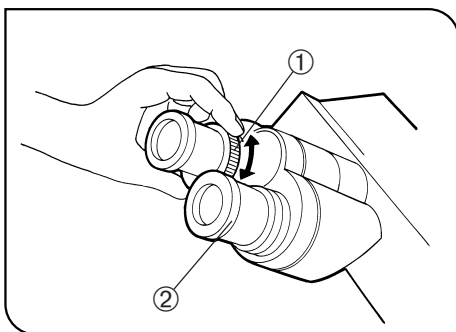

Fig. 16
### 2 Adjusting the Diopter (Figs. 16 to 18)
2. Looking through the left eyepiece with your left eye, turn only the diopter adjustment ring ① to focus on the specimen. (Fig. 16)
1. Looking through the right eyepiece with your right eye, turn the top of eyepiece ② until you see two distinct sets of reticules in the field of view. (Figs. 16 & 17)
3. Looking through the left eyepiece with your left eye, turn the diopter adjustment ring ① to bring the specimen into focus. (Fig. 16)